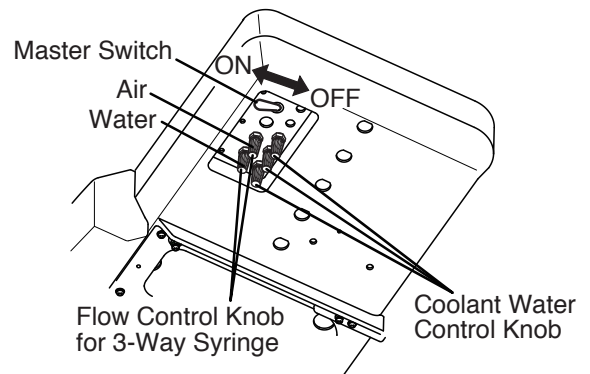

Fig.3-2 Bottom View
5. 3-WAY SYRINGE (Fig. 3-2 & 3-4)